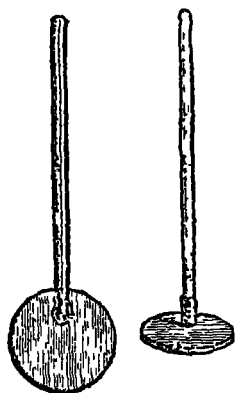

FIG 170.
**Proof-planes**—Strong charges tear the leaves of the electroscope. We can take slight charges from a body by means of proof-planes. They consist of small pieces of good conductors (metal or gilt paper), attached to good insulating handles (rods of glass varnished, or rods of ebonite). A circular piece of gilt paper may be attracted with shellac to an ebonite handle, or a brass button or a penny may take its place (fig 170).